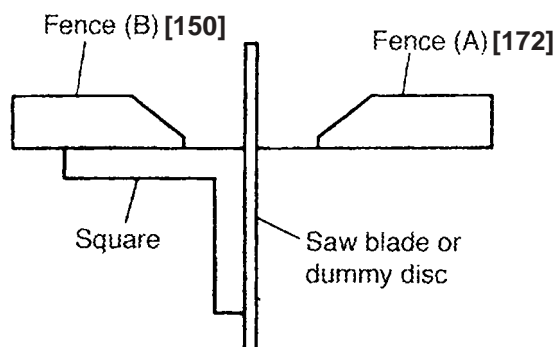

Fig. 55
After disassembly or replacement of the Base Ass'y [167], Turn Table Ass'y [108], Fence (A) [172], Fence (B) [150] or Hinge Ass'y [43], it is necessary to perform necessary adjustment to ensure that the fences are positioned at precise right angles with relation to the saw blade (or dummy disc). Align fence (B) with the saw blade (or dummy disc), and adjust them as necessary to ensure squareness (tolerance: 100 mm). As shown in Fig. 55, use a square to adjust fence (B) so that it is square with the saw blade. Next, use a straight edge to adjust fence (A) so that it is exactly aligned with fence (B). Finally, use the square to confirm squareness of fence (A) with the saw blade (tolerance: 0.4/100 mm).
(2) Reassembly of the Turn Table Ass'y [108]